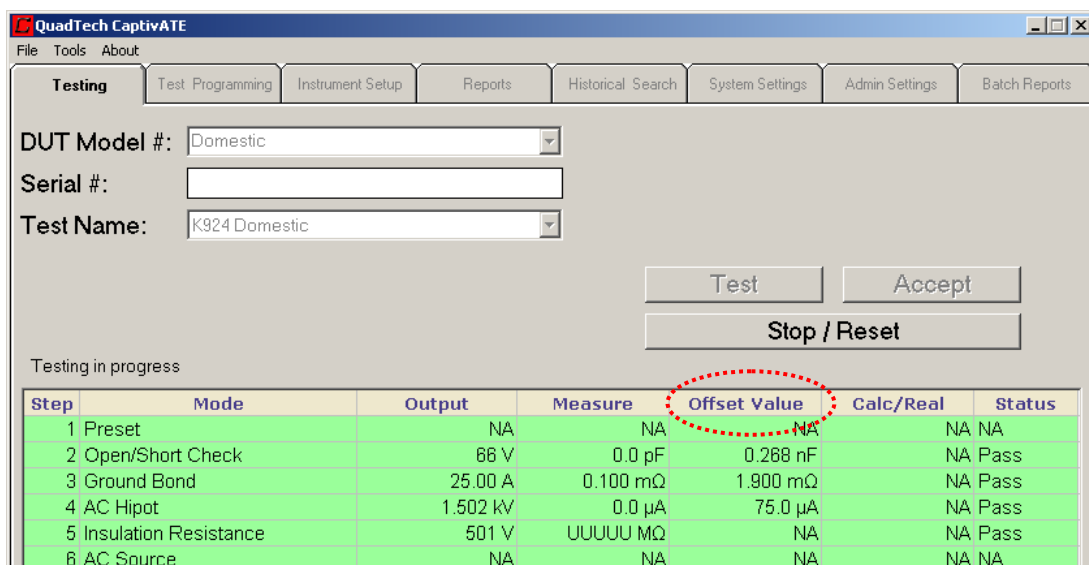

Figure 45 Testing screen Showing Offset Values
3. Click **OK**. Allow the test to start. Results of the offset procedure are displayed in Figure 45 .